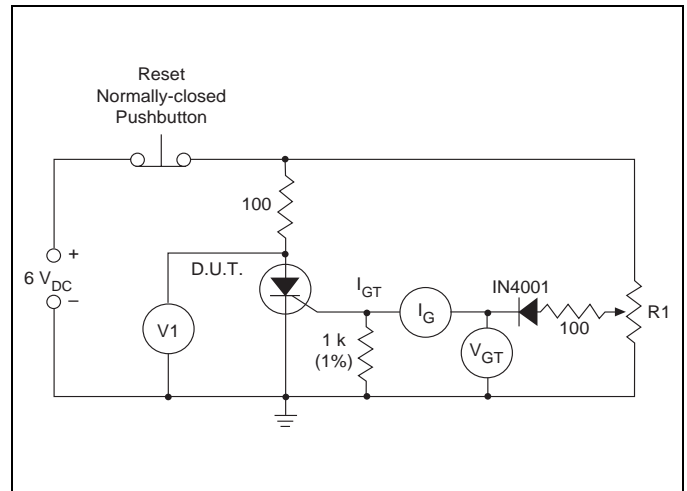

Figure E5.19 Simple Test Circuit for Gate Trigger Voltage and Current Measurement
- $V_D = 6$ V dc, $R_L = 100 \Omega$ (See Figure E5.19 for simple test circuit for measuring gate trigger voltage and gate trigger current.)